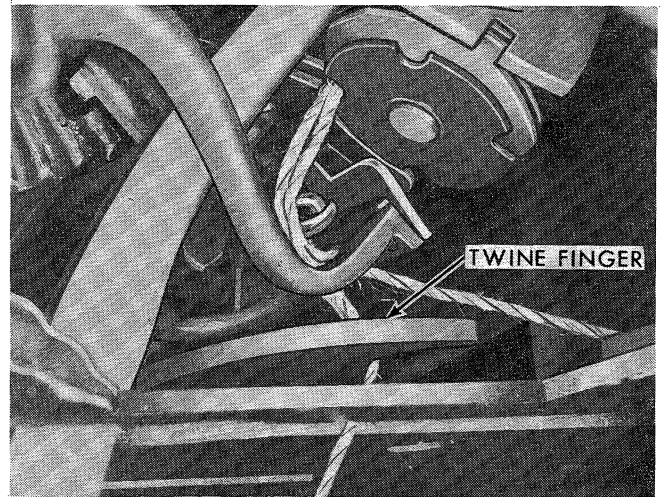

Figure 57
7. With twine threaded through the baler needles, trip the knotter mechanism and turn the flywheel slowly until the needles are in their uppermost position, then observe the position of the twine against the bill hooks. When properly adjusted, the twine fingers should hold the twine against the bill hook so that the twine will not slip off as the bill hook starts to rotate. See Figure 57.